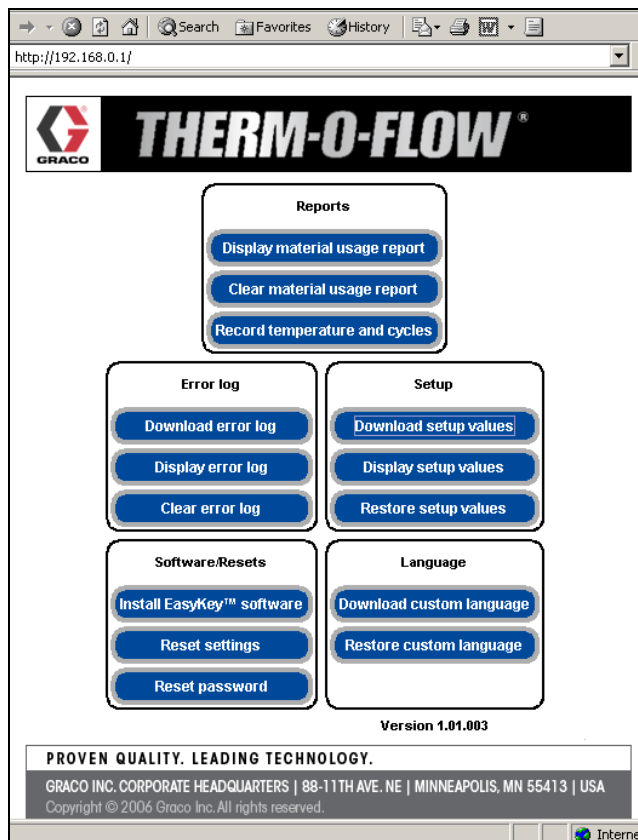

FIG. 33 Main Software Screen
5. Main software screen appears. See FIG. 33.
From the main screen (see FIG. 33) the operator can select buttons for reports, error log, setup, software/resets, or language.